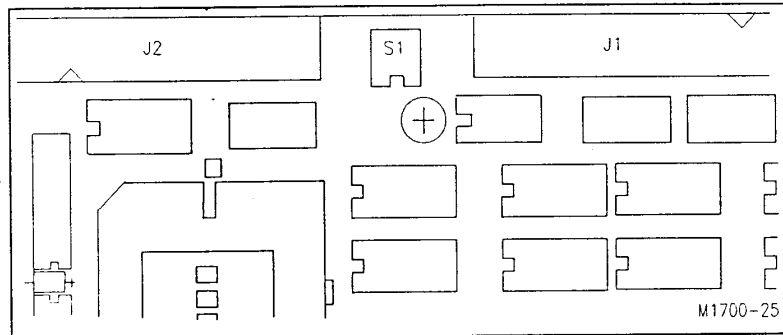

Figure 7-17. Printhead Resistance Selector.
7. Set selector S1 (refer to Figure 7-17) to the number or letter that corresponds to the resistance code on the printhead label. 00 corresponds to position 0, 09 corresponds to position 9, FF corresponds to position F, etc.